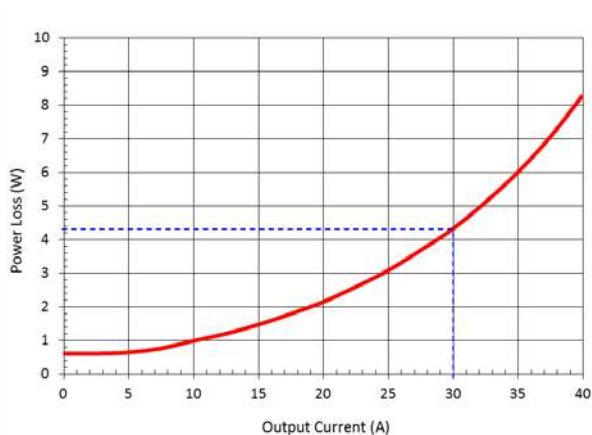
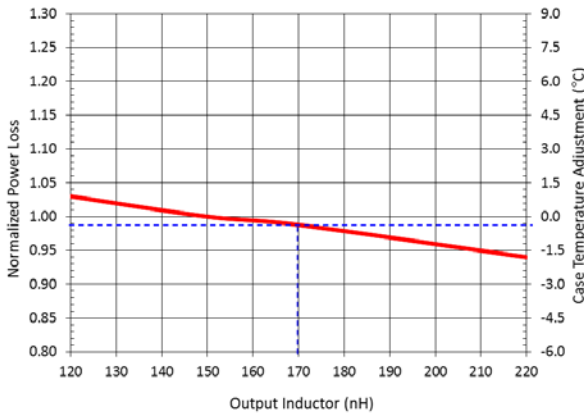

Figure 9: Typical IR3552 Power Loss, 400kHz
Figure 14: Normalized Power Loss vs. Output Inductor (Circuit of Figure 31)
The measured single-phase IR3552 power loss under the same conditions is provided in Figure 9.
If any of the application condition, i.e. input voltage, output voltage, switching frequency, VCC MOSFET driver voltage or inductance, is different from those of Figure 9, a set of normalized power loss curves should be used. Obtain the normalizing factors from Figure 10 to Figure 14 for the new application conditions; multiply these factors by the power loss obtained from Figure 9 for the required load current.
6) Determine the inductance normalizing factor with  $L=170nH$ , which is 0.985 based on the dashed lines in Figure 14.